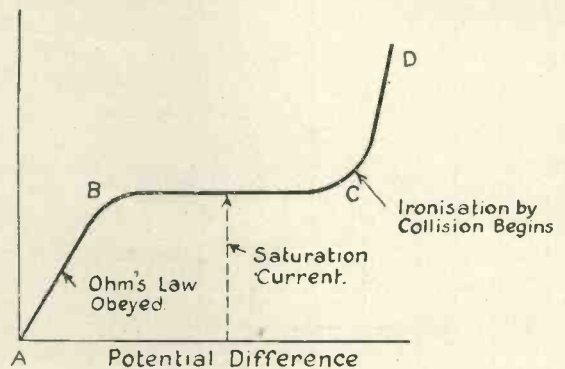

Fig. 2.—Relation between P.D. and current through a gas.
It has been found that under these circumstances the gas approximately obeys Ohm's law, as shown in Fig. 2 (AB). As the P.D. between the plates is further increased, however, there comes a point beyond which further increase in the electric field is not
acquire so much energy between successive collisions with the molecules of the gas that the collisions result in the loss of electrons from the atomic systems of the molecules. If this happens, an original electron has caused the appearance in the gas of another electron and a positive ion; these at once commence to drift in their proper directions under the electric field, and they may acquire sufficient energy to produce further electrons and ions at their next encounters, and so on. The process now taking place is known as "ionisation by collision," and it will be evident that owing to this "snowball" action the total ionisation in the gas will increase with great rapidity.* The curve showing the relation between the P.D. and the current through the gas, when ionisation by collision sets in, is given in Fig. 2 (CD). This phenomenon is, in fact, what is commonly known as "electric discharge" or "sparking." When the sparking potential is reached, both the positive and negative carriers begin to ionise by collision. The mean potential gradient required to produce sparking is approximately proportional to the pressure of the gas; in air at atmospheric pressure it is about 30,000 volts per cm. and in air at 1 mm. pressure about 40 volts per cm.